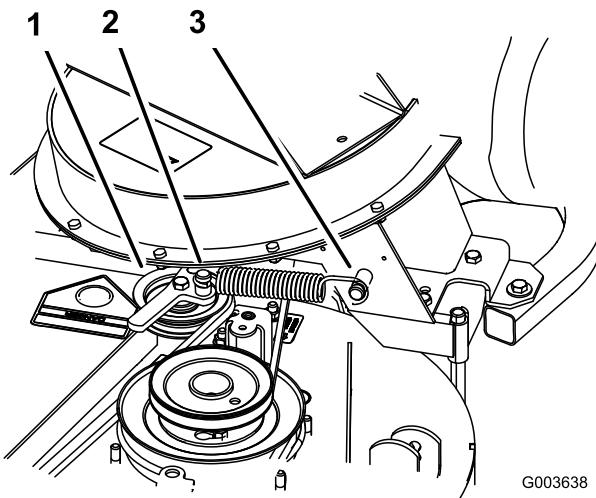

Figure 17
4. Install the spring as shown in Figure 17.